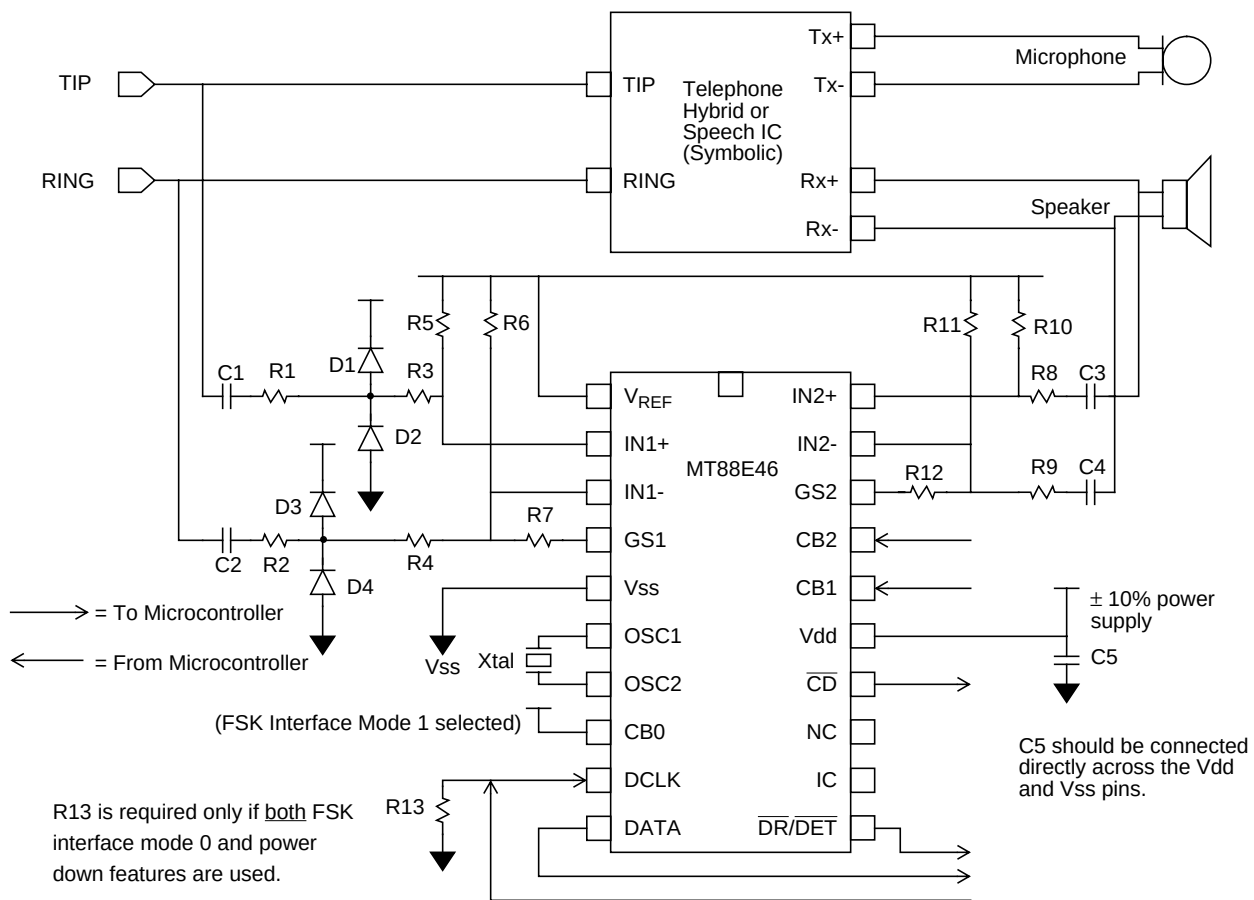

Figure 8 - Application Circuit: MEI Compatible Type 2 Telephone
The MT88E46 can be powered down to consume virtually no power supply current via a state of the CB0/1/2 pins. Momentary transition of CB0/1/2 into the power down code will not activate power down. In power down mode both input op-amps, V_{REF} and the oscillator are not operational; DCLK becomes an input pin because to select the power down state CB0 is 1 which selects FSK interface mode 1. If the application uses FSK interface mode 0 and the MT88E46 needs to be powered down, then during power down the input state of the DCLK input must be defined, for example, by a pull down resistor (R13 in Figure 8) so that the MT88E46 will draw minimal power supply current. When the MT88E46 is powered down DATA, $\overline{DR}/\overline{DET}$, $\overline{CD}$ are high.
- For the GS1 op-amp, start with the 0dB gain setting resistor values of $R5_{0dB}$, $R6_{0dB}$ and $R7_{0dB}$. In Figure 8 they are 53K6, 60K4 and 464K respectively. Keep R1, R2, R3, R4, C1, C2 as in Figure 8 to keep the input highpass filter corner frequency constant for all gain settings.